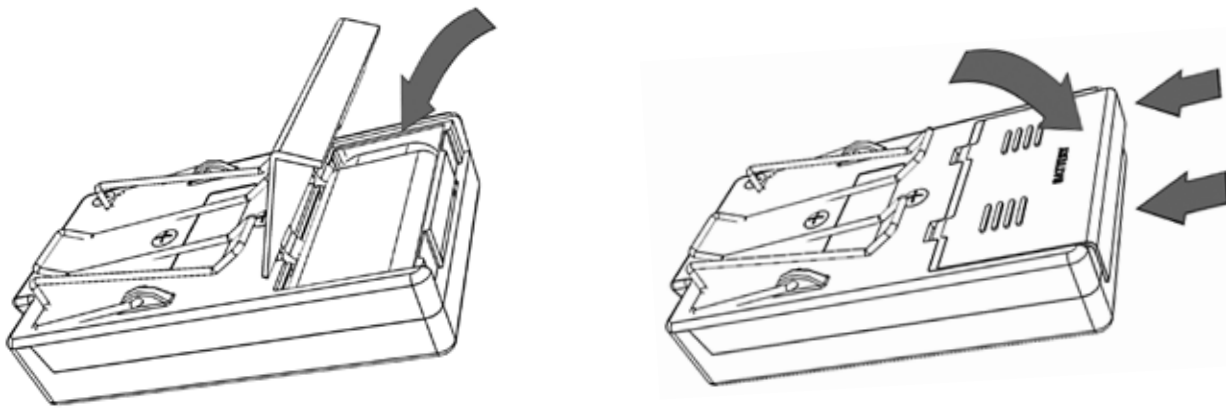

FIGURE 13
1. Insert the battery into the compartment and close the battery door then secure the door by sliding shut as shown in figure 13.